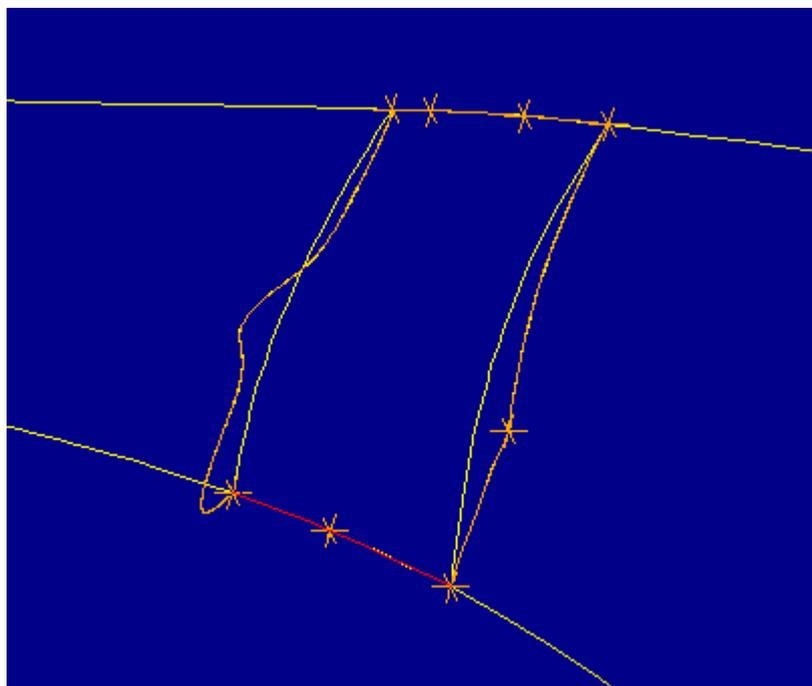
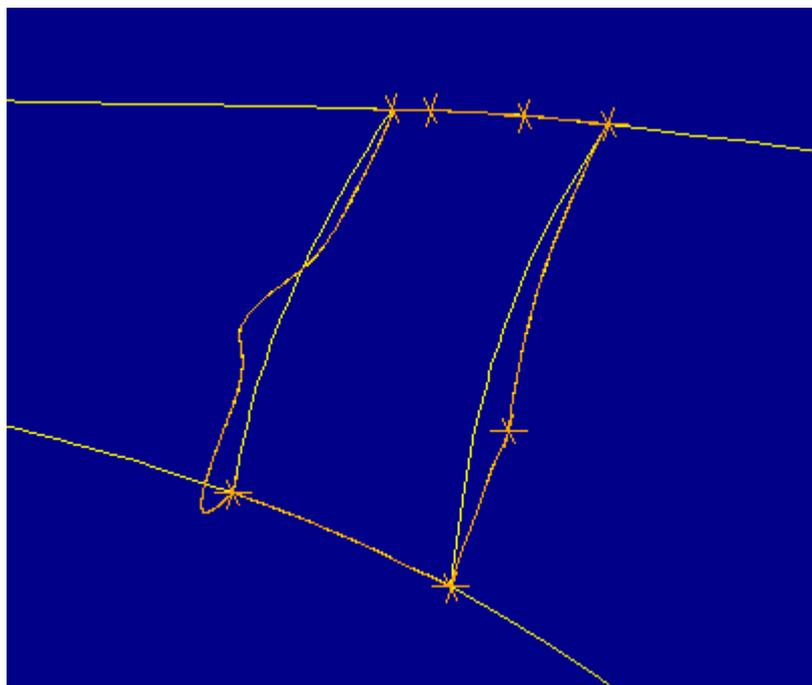

Figure 30
Figure 31
21. In the EDIT BNDRY menu select **Modify, Merge Edges**. Select the two orange vertices at either end of the bottom edge and in the CHOOSE menu **Accept** the chain highlighted in red in Figure 30. Figure 31 shows the resulting edge.